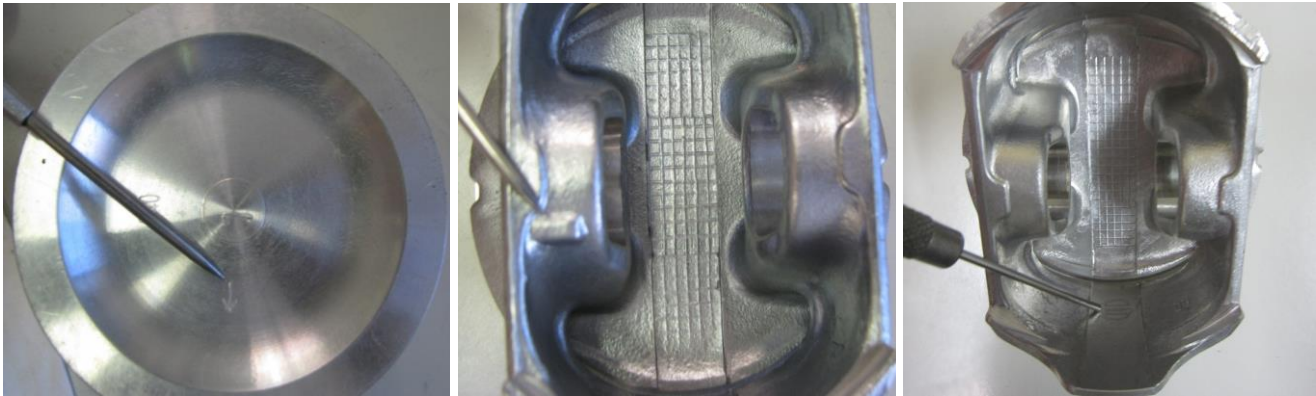

Figure 131 – Thrust Direction Markings For Pistons
- Looking at the underside of the piston there is a cast-in lump on one gudgeon pin housing (see Figure 131). This lump must be fitted to the engine on the side of the connecting rod closest to the propeller flange. Another marking used for the same job is a small arrow or indent cast into the crown. The arrow must point towards the propeller flange and/or the indent must be on the propeller flange side of the connecting rod. These markings show the correct orientation of the piston to the thrust loads from combustion relative to the propeller. In addition, or when the thrust mark is absent for some pistons, the manufacturer's mark  is orientated towards the bottom (sump side) of the engine for the RHS of the engine and towards the top of the engine for the LHS of the engine (from the pilot's perspective), see Figure 131 right image.